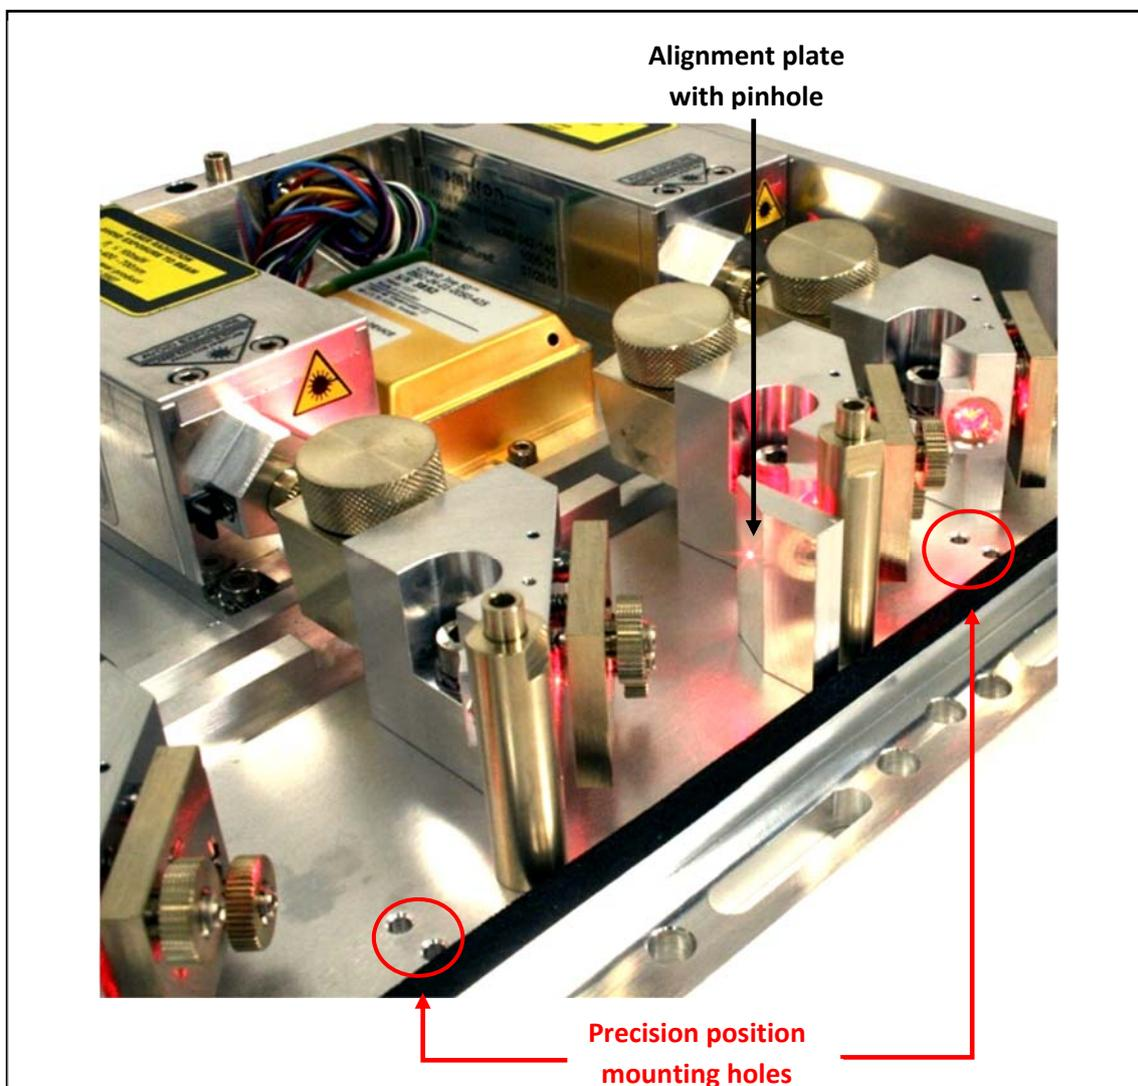

Figure 15: Adjusting the beam shifter for LightHUB® with alignment plates
2. For an easier adjustment procedure, it is recommended to put in max. two additional alignment plates with a pinhole after each of the three accessible beam combiners (see Figure 15). The position of the pinholes is fixed by mounting holes (precision position). Adjust the beam shifter as it is described in chapter 6.1.1. Then adjust the beam combiner as it is described in chapter 6.1.2. The right position of the deflected beam is achieved when the beam passes the pinholes of the alignment plates with maximum power. We recommend using a thermopile power meter for this procedure.